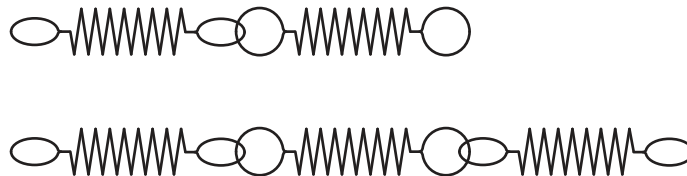

Fig. 2.1
- Two springs should be linked together in series, and the other three springs should be linked together in series, as shown in Fig. 2.1.